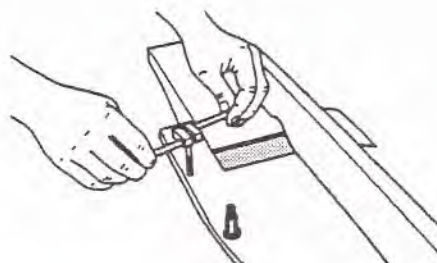

Fig. 9
16. Use a 1/4-28 Tap to cut threads in the drilled hole, as seen in Fig. 9. Follow this process: Start the tap straight in the hole. Make a full turn. Back up a quarter turn. Add two drops of any kind of oil into the hole. Repeat this process until you have tapped threads through the entire hole.